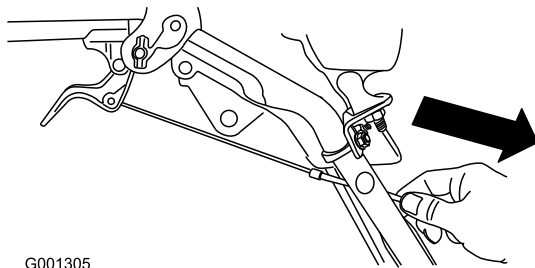

**Figure 7**
3. Remove the nut and washer from the handle, attach the cable clamp on the cable to the handle, install the washer and the nut, and hand tighten the nut (Figure 7).